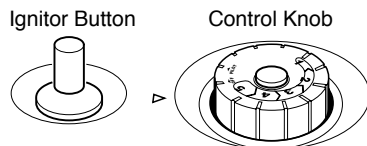

Figure 21 - Control Knob In The OFF Position
4. Wait five (5) minutes to clear out any gas. Then smell for gas, including near the floor. If you smell gas, STOP! Follow "B" in the safety information. If you don't smell gas, go to the next step.
5. Turn control knob counterclockwise  to the PILOT position. Press in control knob for five (5) seconds (see Figure 21).